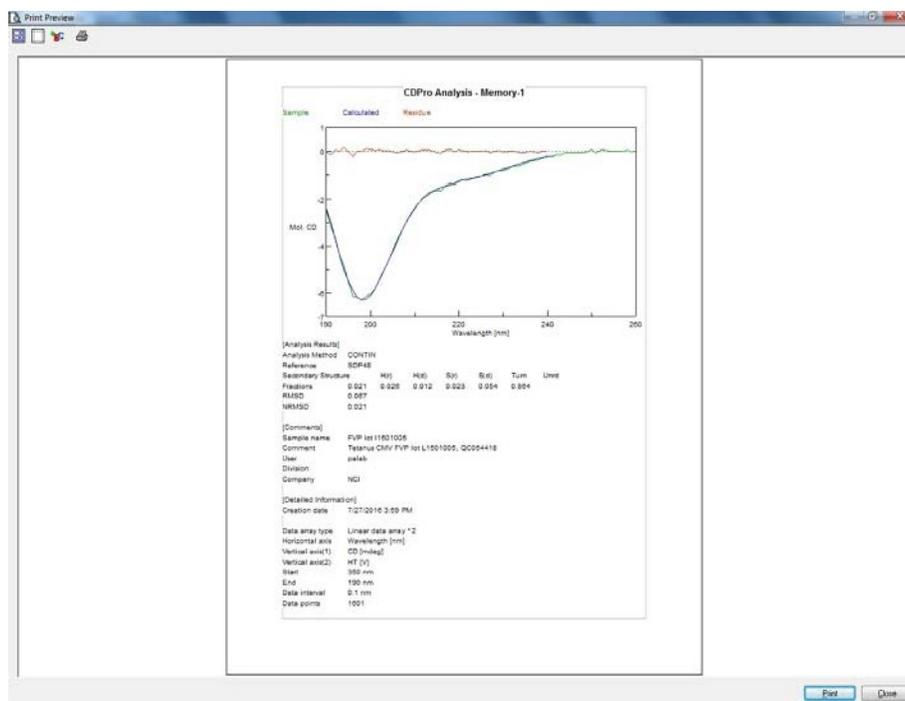

Figure 9. CDPro Report Printout.
- 6.1.7.3 Click 'Scale' to scale the CD spectrum or 'Print' for printing results. The results can be saved as an *.xps extension file, in the appropriate folder, and printed later (Figure 9).